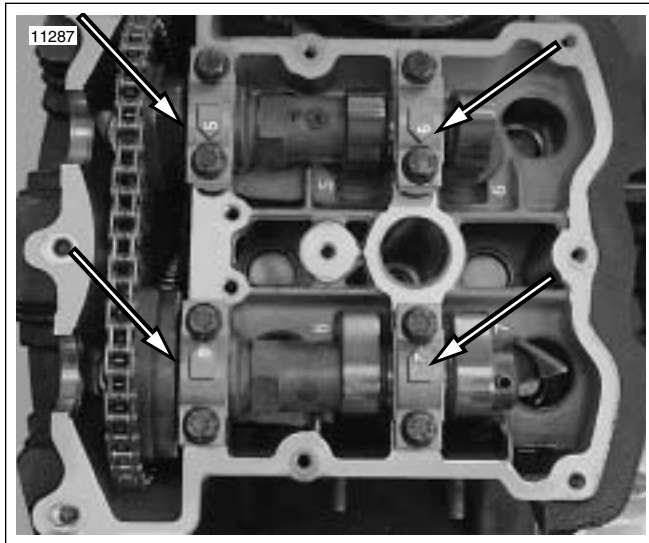

Figure 1-84. Cam Journal Caps
- See Figure 1-84. Remove cam journal fasteners and caps from the cam needing adjustment.